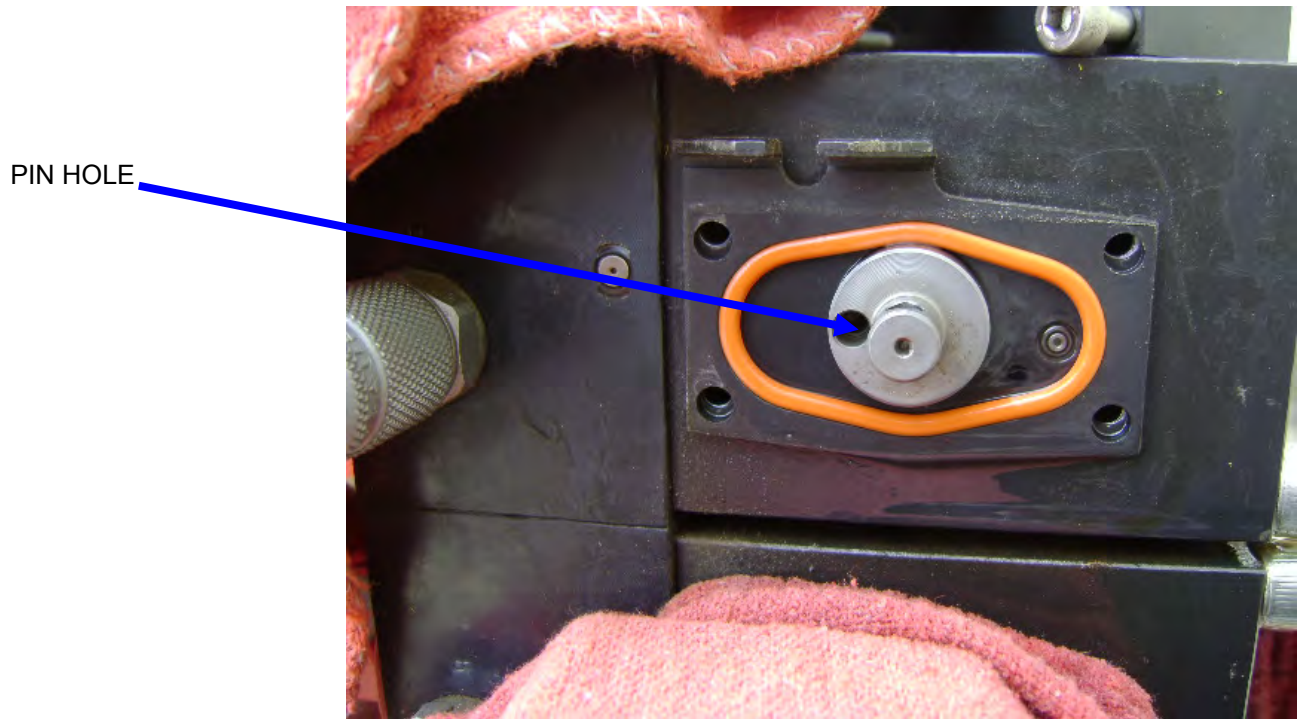

Figure 15
15. Orient the spool to line up the pin hole with the pin inside the spool cover that is replacing the manual actuator (Figures 15 and 16).